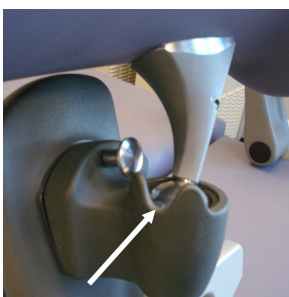

Figure 1-30: Divot housing
1. Adjust the calf support into the divot housing (Figure 1-30 on page 1-31).